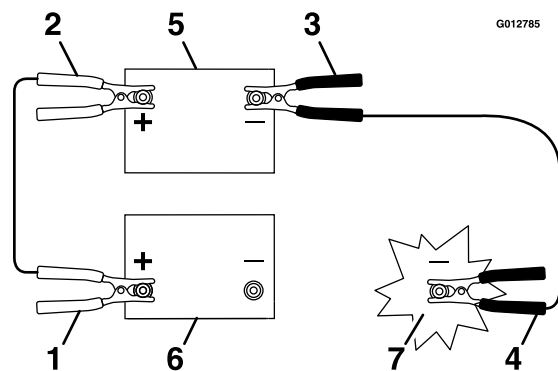

Figure 58
5. Connect the positive (+) cable to the positive (+) terminal of the discharged battery that is wired to the starter or solenoid as shown in Figure 58.